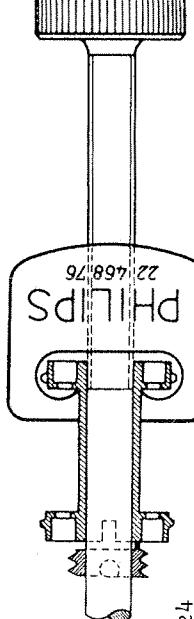

Fig. 24
- If the sprocket cannot easily be removed from the spindle, use the PHILIPS sprocket puller (fig. 24) No. 22 468 76 which has left-hand thread.